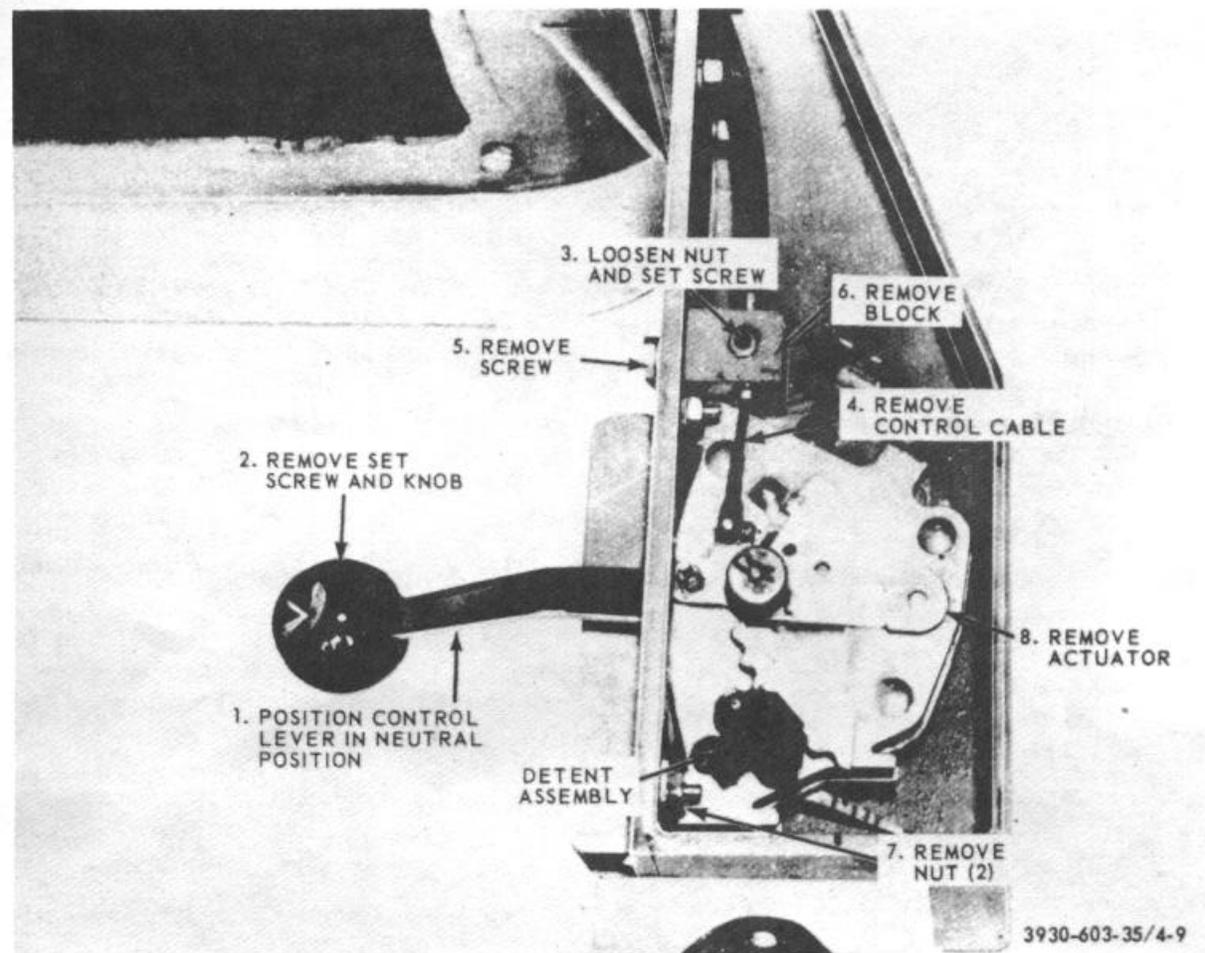

Figure 4-9. Gearshift actuator assembly, removal and installation.
a. Remove and install gearshift actuator as illustrated in figure 4-9.